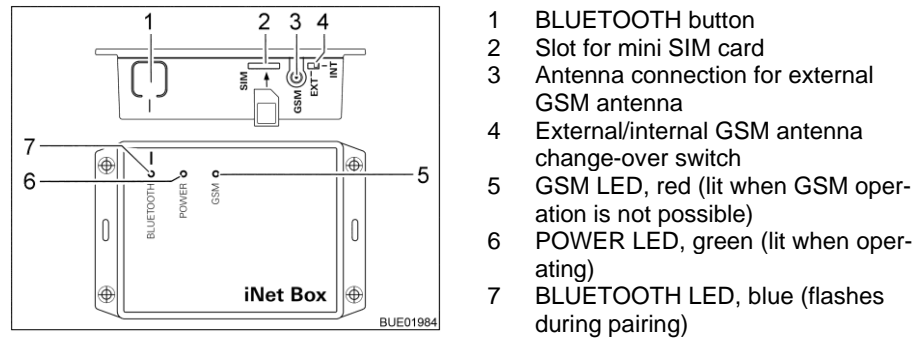

Fig. 93 Truma iNet-Box
- Press the BLUETOOTH button (Fig. 93,1) on the iNet-Box for 1 second. The Truma iNet-Box will be visible in the mobile terminal for approx. 2 minutes (name: "Truma iNet-Box"). During this period, the blue BLUETOOTH LED (Fig. 93,7) will be flashing.
- Carefully insert the mini SIM card with own telephone number and sufficient credit into the slot (Fig. 93,2) of the Truma iNet-Box as shown until it engages. The red GSM LED (Fig. 93,5) must be flashing continuously. If the red LED goes out after 20 seconds: Check mini SIM card.